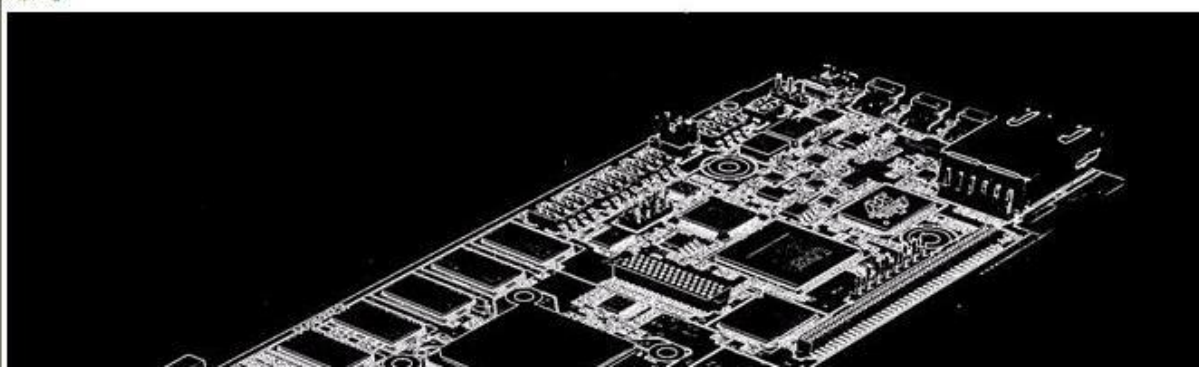

Figure 4-9 Image Processing Output Page
6. The output result is shown in Figure 4-9.